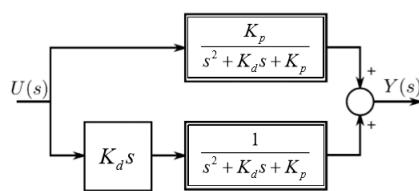

Figure 5.17: Second control loop redrawn.
which looks like the block diagram shown in figure 5.17.
- The ‘regular’ response to a step function as you’d expect following the upper path in figure 5.17.
- The response to the derivative of the step function, i.e. the response to an impulse function, due to the lower branch of figure 5.17.